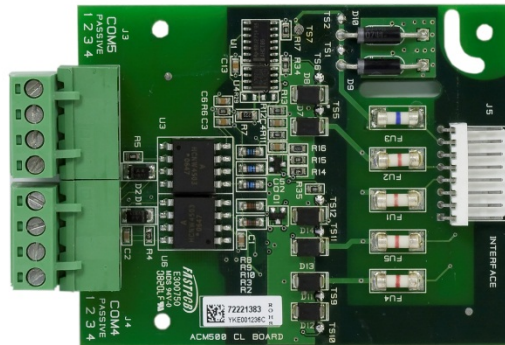
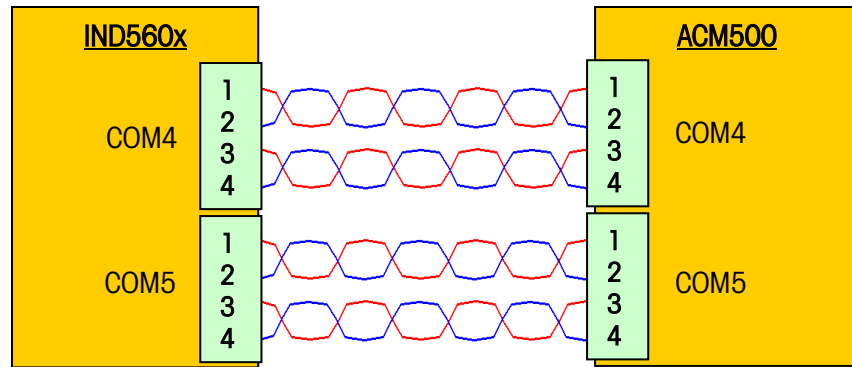

Figure 3-11: Current Loop Interface Board
Figure 3-12: I.S. Serial Interface Wiring
4. Follow the wiring connections shown in Figure 3-12 and Table 3-3. Refer to Figure 3-11 to help identify the terminal positions. Keep the internal wiring as short as practical.
6. Follow the wiring connections shown in Figure 3-12 and Table 3-3. Refer to Figure 3-11 to help identify the terminal positions. Keep the internal wires as short as practical.